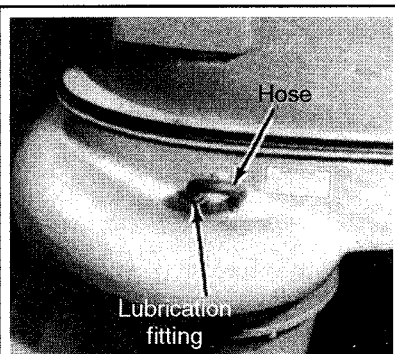

Fig. 12 The jet drive lubrication fitting is found under the vent hose
4 See Figures 12 and 13
- ◆ See Figures 12, 13 and 14